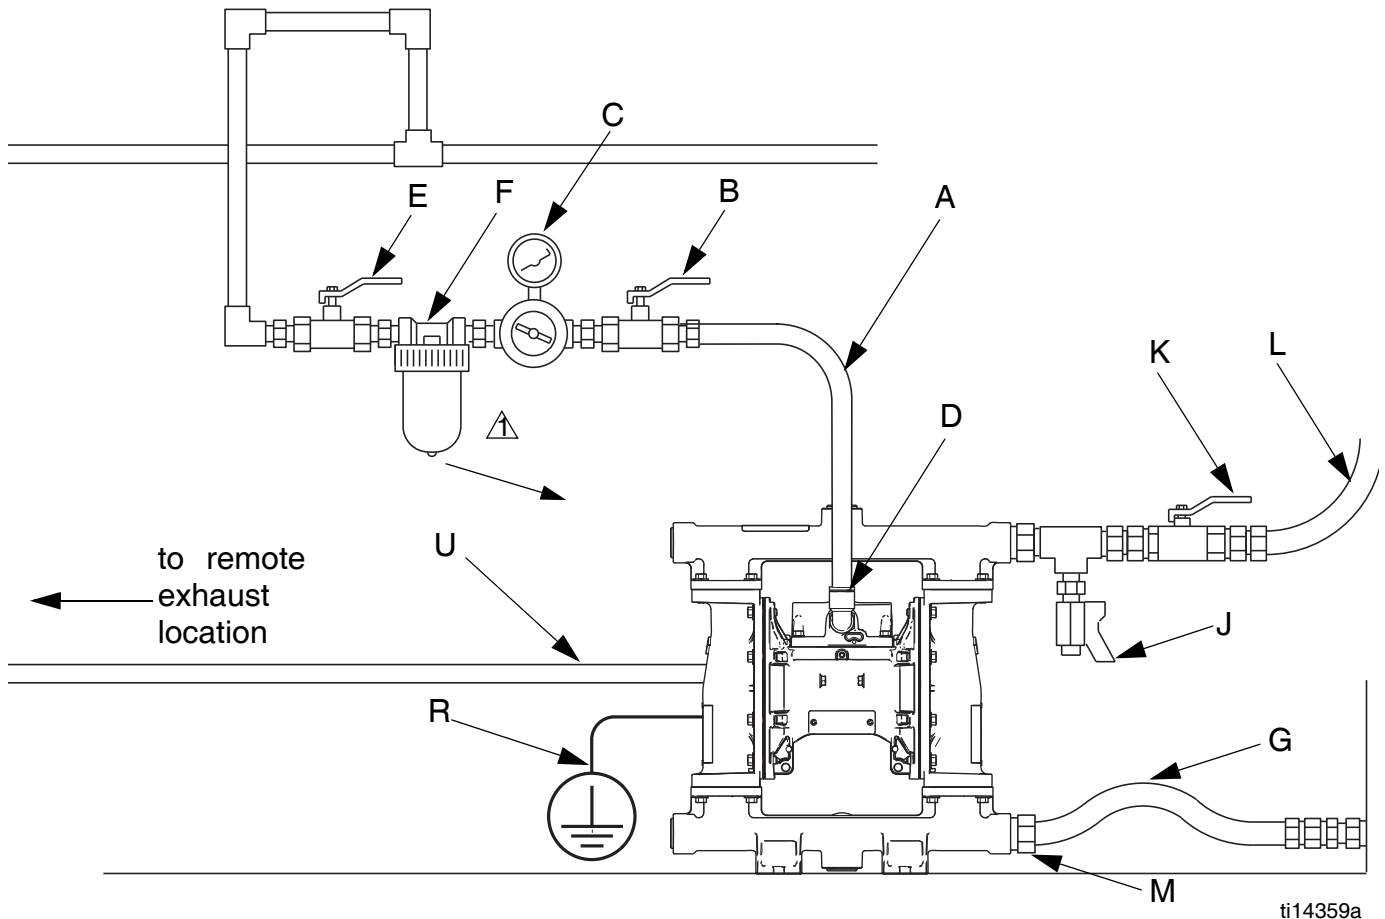

FIG. 3. Typical Installation
- The Typical Installation shown in FIG. 3 is only a guide for selecting and installing system components. Contact your Graco distributor for assistance in planning a system to suit your needs.
2. Mount in an upright, horizontal position as shown in FIG. 3.
See FIG. 3, page 11.
3. Locate another bleed-type master valve (E) upstream from all natural gas line accessories and use it to isolate them during cleaning and repair.
4. A filter (F) removes harmful dirt and moisture from the compressed gas supply.
5. Install a grounded, flexible gas hose between the accessories and the 1/2 in. npt(f) pump inlet (D). See FIG. 3. Use a minimum 1/2 in. (13 mm) ID hose.
See FIG. 3.